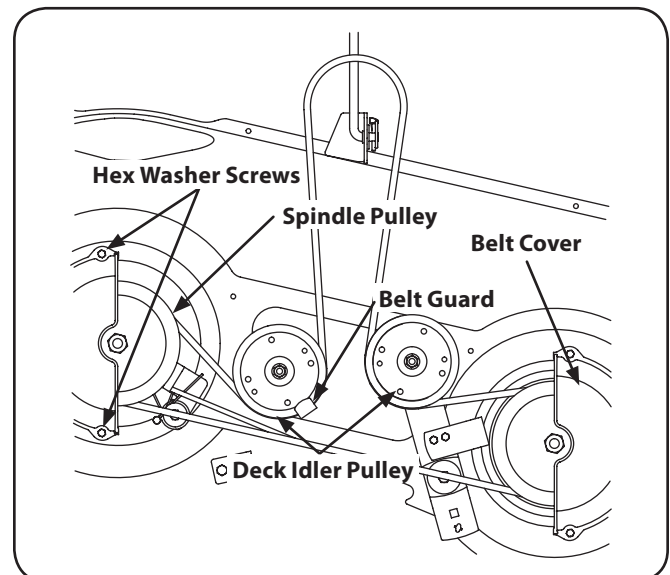

Figure 7-7
- Remove the belt covers by removing the hex washer screws that fasten them to the deck. See Fig. 7-7.
- Carefully remove the deck belt from around the two spindle pulleys and the two deck idler pulleys. See Fig. 7-7.
- To place the new belt, begin by routing the belt around the two outer spindle pulleys as shown in Fig. 7-7.
- Then route the belt around the two deck idler pulleys as shown in Fig. 7-7.